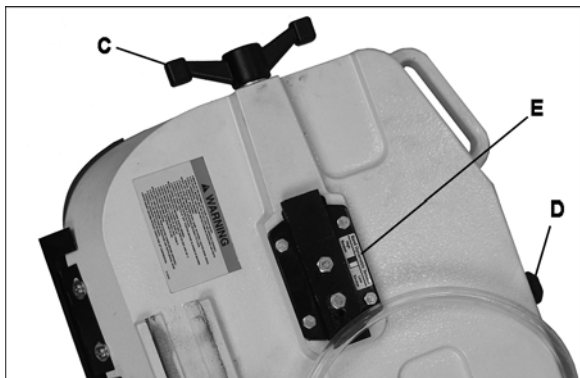

Figure 20
5. Loosen blade tension by turning handle (C, Figure 20) counterclockwise.
6. Open back cover by loosening two lock knobs (D, Figure 20).
3. Lightly tension blade to remove any sag by turning handle (C, Figure 20) slightly clockwise.
4. Turn tension handle (C, Figure 20) 1-3/4 to two revolutions clockwise.
8. Tighten blade by turning handle (C, Figure 20) two full revolutions.
**TIP:** Slacken blade tension when finished with operations, to prolong blade life. Make note of indicator position on tension label (E, Figure 20) for quickly returning tension to its previous setting.